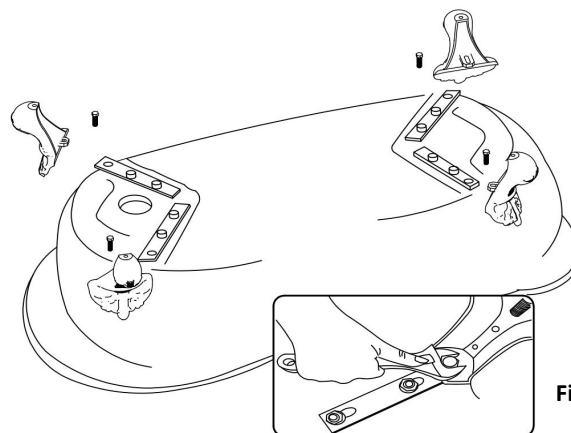

Figure 4
- ② Adjust the position of the feet to align with the bath, metal bars could be adjusted if needed. See Figure 4